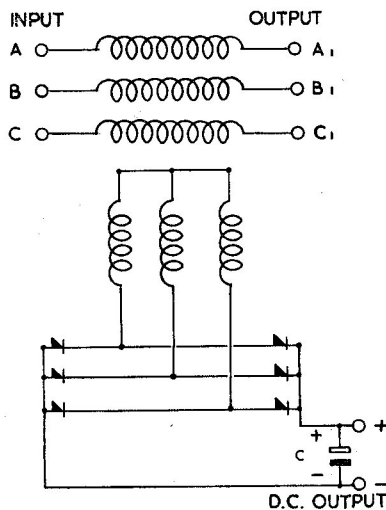

Fig. 3. Diagram of internal connections
5. A diagram of connections is given in fig. 3. Terminals A, B, and C, are the 3-phase input and terminals A1, B1, C1, the 3-phase output, star connected in series with the actuator motor field. The 3-phase input is
first stepped down in the transformer and then rectified to give 14.4 to 15.3 volts d.c. with output current between 8.45 and 9 amp. at the + and - terminals. The 250 μ F electrolytic capacitor is connected across the d.c. output terminals as shown in fig. 3, to control the ripple content of the d.c. output and so give diode protection under transient conditions which occur during starting. It is important that an insulation test should not be made between terminals + and - as this voltage would cause damage to the capacitor.